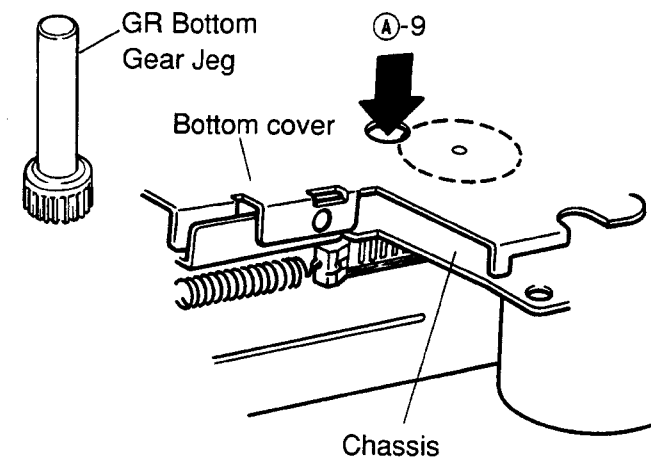

Figure 4
- (12) Since the hooks marked A-8 will be lifted slightly as shown in Figure 4, insert the jig through the hole A-9, and fix it turning the jig slightly in the direction A-11. Instead of operation (12), turn the gear nose slowly with a precision screwdriver etc., taking care not to damage it. After 2 to 3 turns, it will click into place. (Refer to Figures 4 and 5.)
- (13) Fix the screws and the lock washer that have been removed.
- (14) Insert the jig into the hole A-9 as shown in Figure 4 and rotate the eject solenoid counterclockwise about 20 times, pulling it in the direction A-10 with the finger. Then the eject operation is completed. Instead of operation (14), the eject operation can be performed by mounting the mechanism to the product. (Refer to Figures 4 and 5.)